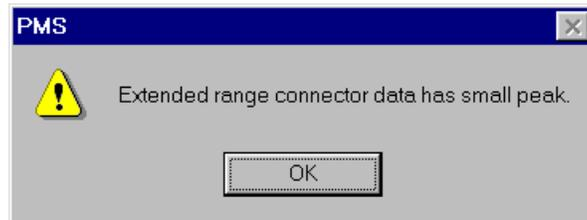

Figure 97.
- If the focus you have chosen is not correct or the fiber height is larger than $\pm 6\mu\text{m}$, the ZX-1 will display a series of warnings after the measurement has been completed as in figures 97 and 98.